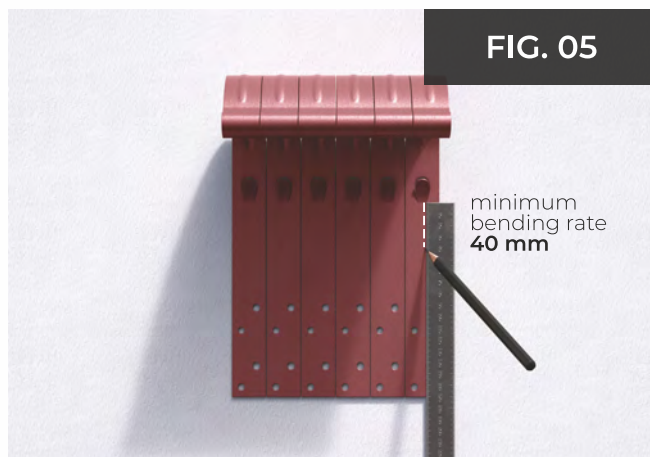

FIG. 05
- the marking shall consider the minimum bending rate of the hooks - 40 mm (this is the length of the device used to bend the hooks (FIG. 05)), a perpendicular line is drawn on each aligned hook (FIG. 06).